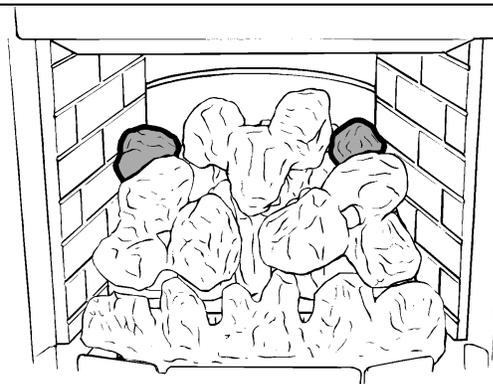

Fig. 27 Single coals installation
13.6 Place a single coal at each of the back corners of the fire box (See figure 27).